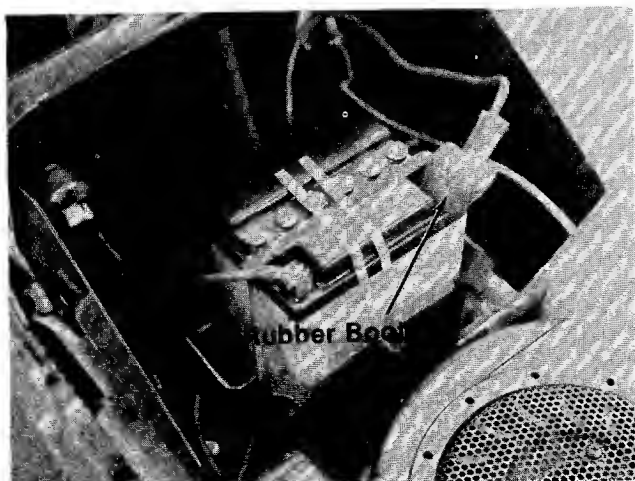

FIGURE 16.
18. Slide the rubber boot over the positive terminal. See figure 16.